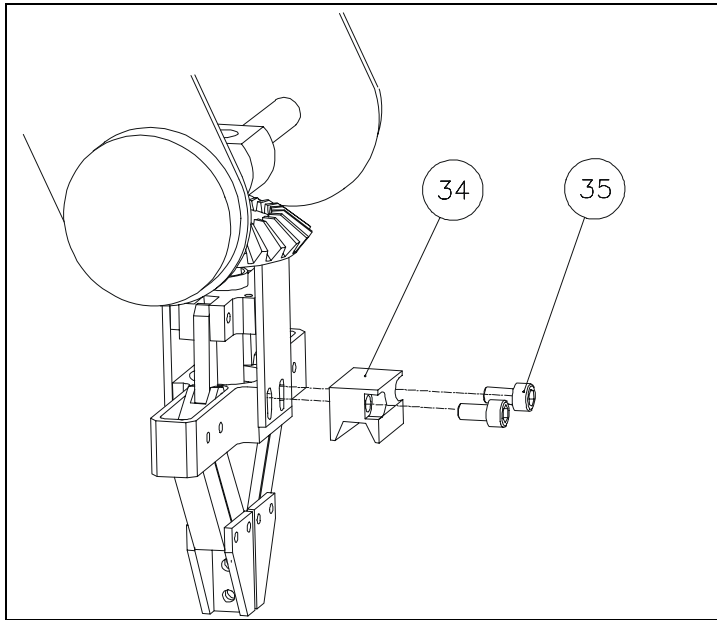

Figure 22: Attaching Welding Gun Adapter to Gripper
11. See Figure 22. **After you have homed the robot**, attach the welding gun adapter to the robot gripper on its exterior side.